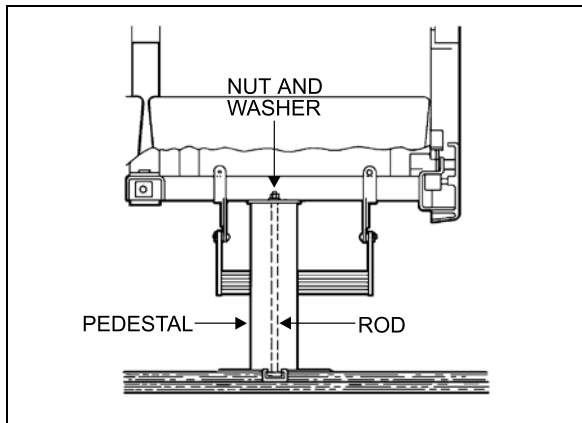

FIGURE 79: SEAT PEDESTAL ASSEMBLY 18107
5. Remove 2 nuts and washers holding seat frame to pedestal rods. See Figure 79.